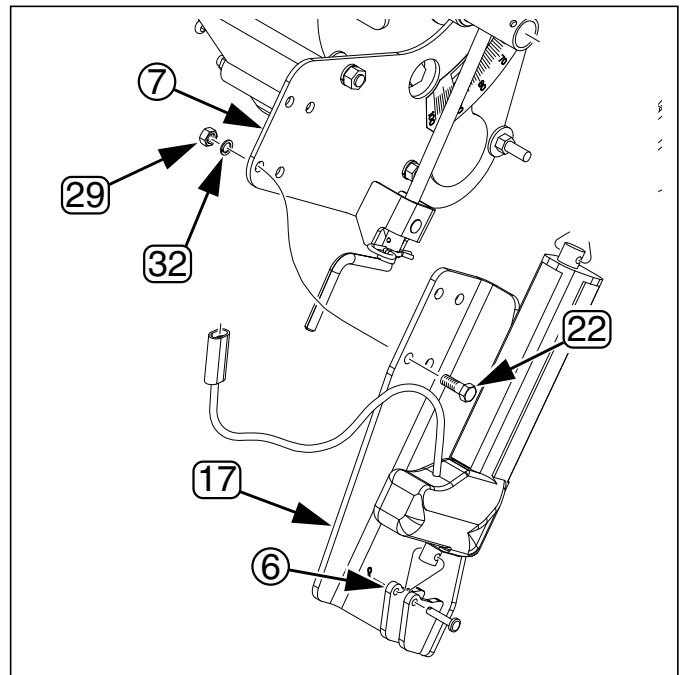

Figure 8
*Refer to Figure 8*
- ①⑦ 168-371H LINEAR ACTUATOR MOUNT WELDMENT and four sets new:
- ②② 802-017C HHCS 3/8-16X1 GR5
- ③② 804-013C WASHER LOCK SPRING 3/8 PLT
- ②⑨ 803-014C NUT HEX 3/8-16 PLT